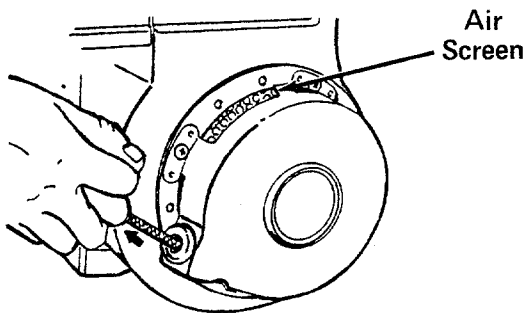

FIGURE 8.
4. Grasp starter handle (see figure 8) and pull rope out slowly until engine reaches start of compression cycle (rope will pull slightly harder at this point). Let the rope rewind slowly.